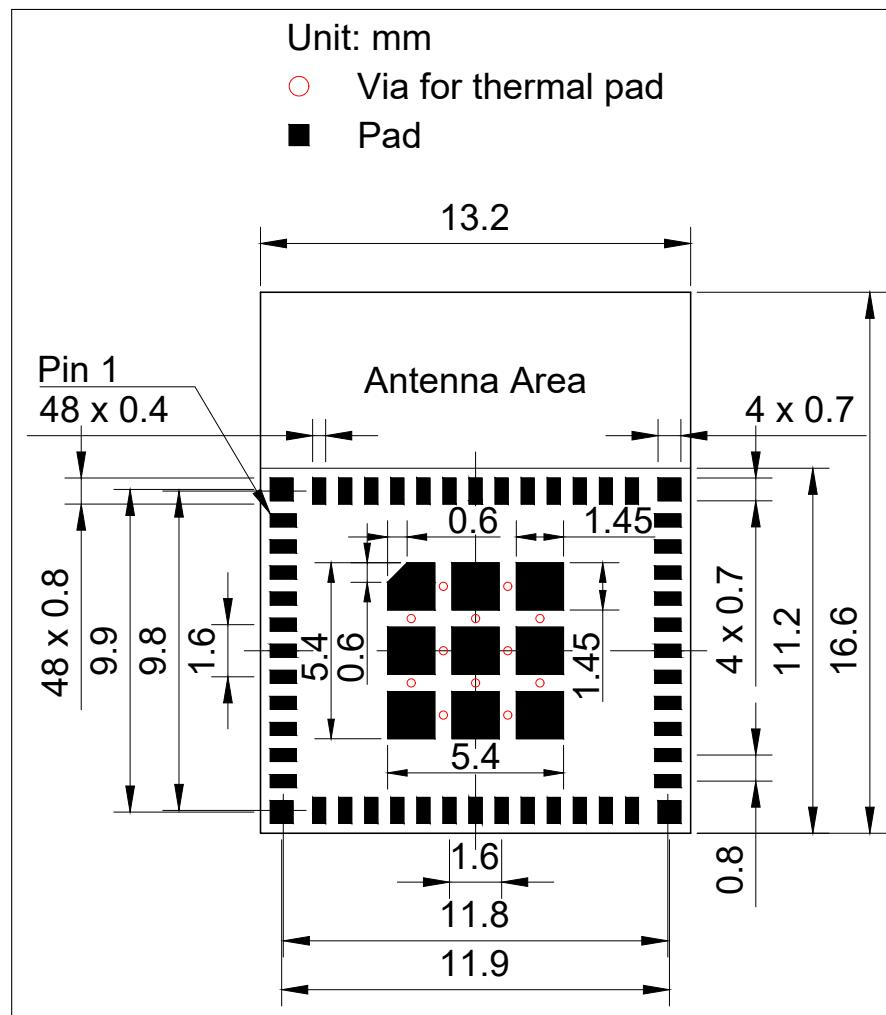
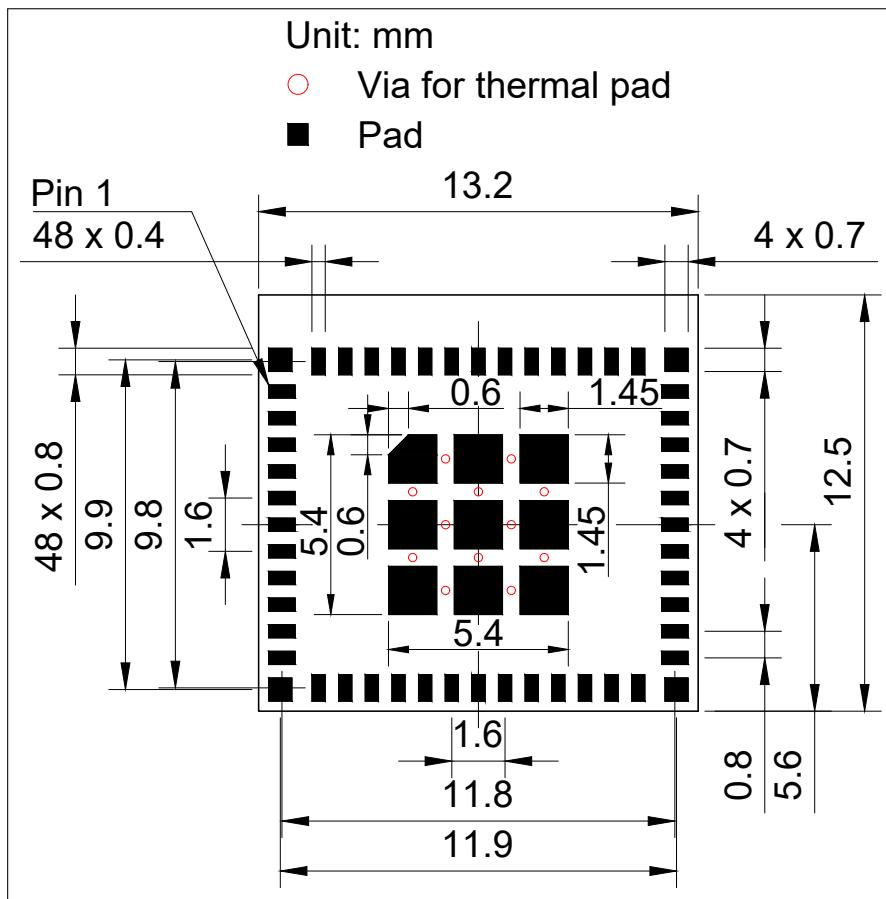

Figure 11: ESP32-H2-MINI-1 Recommended PCB Land Pattern
Figure 12: ESP32-H2-MINI-1U Recommended PCB Land Pattern
- Figure 11 ESP32-H2-MINI-1 Recommended PCB Land Pattern and Figure 12 ESP32-H2-MINI-1U Recommended PCB Land Pattern: the recommended PCB land patterns with all the dimensions needed for PCB design.
- Source files for ESP32-H2-MINI-1 and ESP32-H2-MINI-1U: the recommended PCB land patterns to measure dimensions not covered in Figure 11 and Figure 12. You can view the source files with Autodesk Viewer.